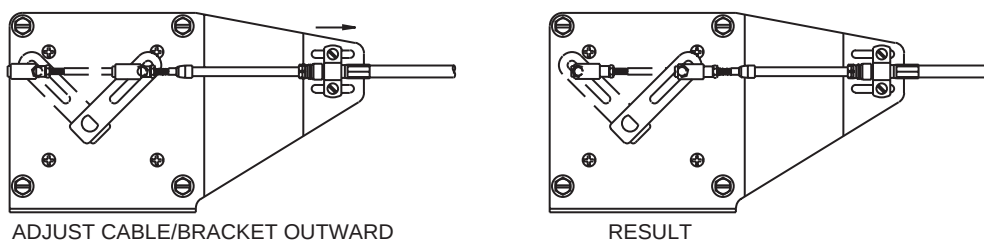

Figure 29. Adjustment of Cable Clamp - Overshoot
- D: When the travel of the Servo Actuator lever and push-pull cable matches closely, but the cable overshoots the Servo Actuator lever at both ends of travel, moving the cable clamp outwards away from the actuator lever. See Figure 29.